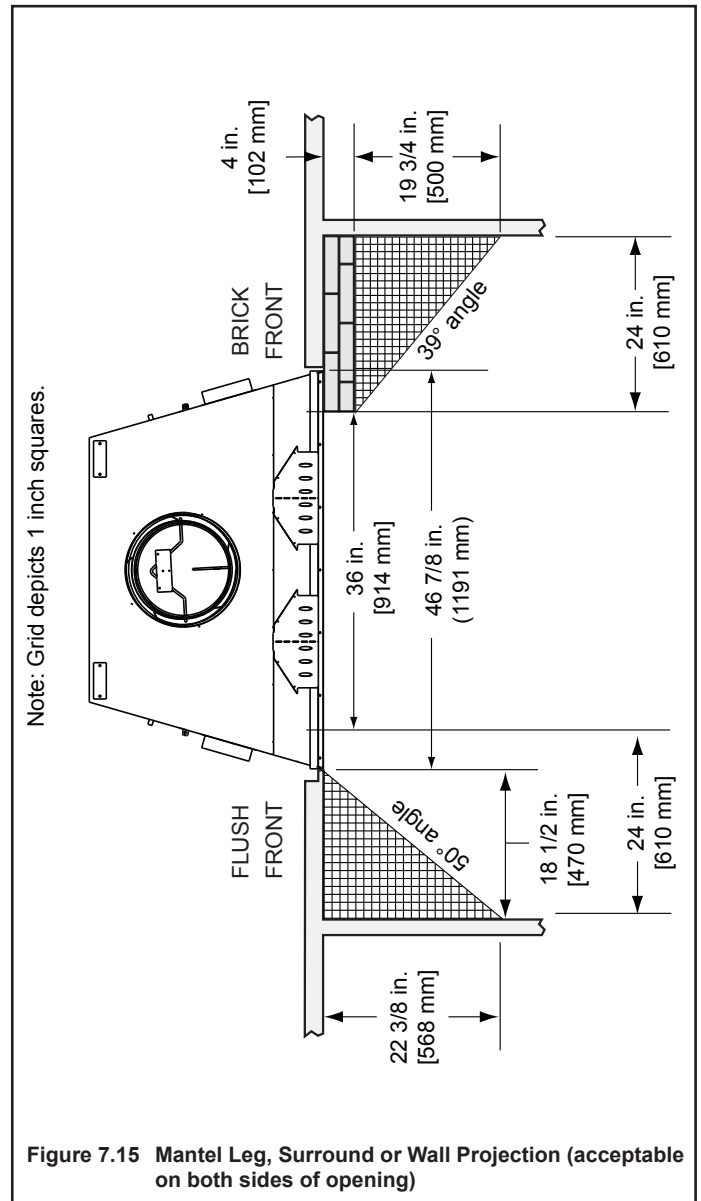

Figure 7.15 Mantle Leg, Surround or Wall Projection (acceptable on both sides of opening)
- Mantle leg, surround, stub wall, whether combustible or non-combustible, may be constructed as shown in Figure 7.15.